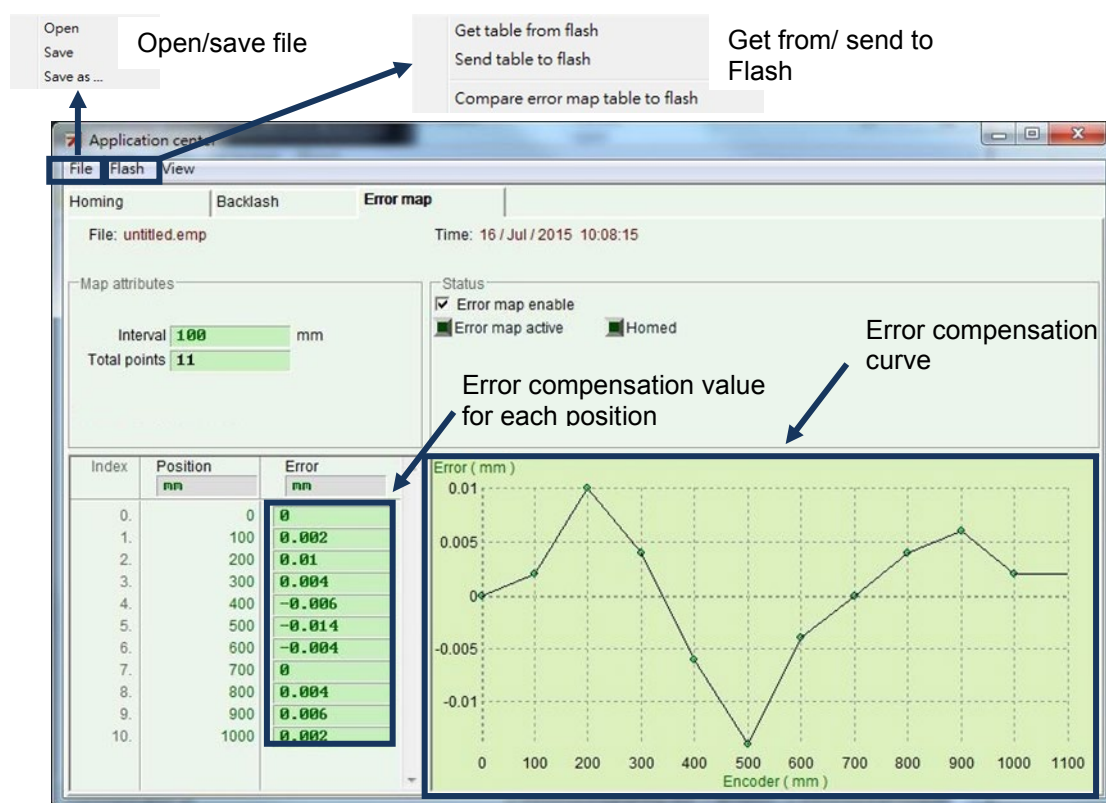

Figure6.9.1.1 Error map window
Step 1: Go to the application center and select the “Error Map” tab to open the window of error map function, as shown in figure 6.9.1.1.
Step 2: Set the compensation interval (“Interval”) and total compensation points (“Total points”), and then enter the error compensation value into the “Error” field. If a different custom unit is needed, click the unit field to set different unit. Taking the example of figure 6.9.1.2, the compensation range is from 0 to 1,000 mm, the compensation interval is 100 mm, and the total compensation point is 11 points. The value in the “Error” field is obtained from the error measurement of laser interferometer. For example, when the target position is 100 mm, the laser measurement returns to 100.002 mm.